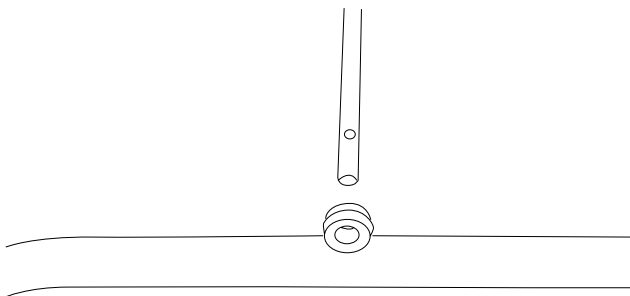

Figure 8
1. Slide the upper chute crank through the rubber ring located on the middle frame (Fig. 8).